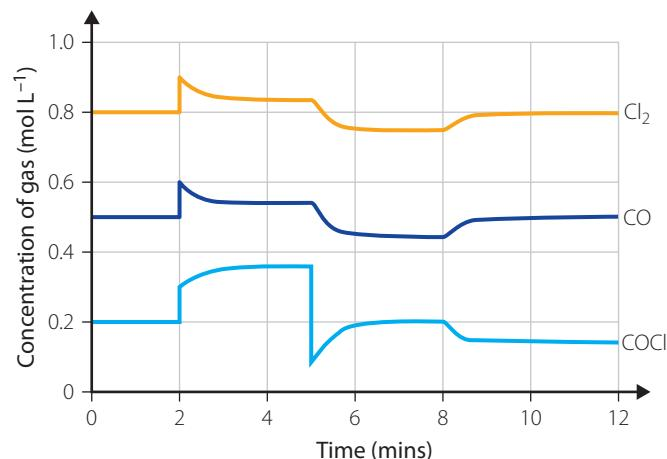

FIGURE 2.22 Closed system of a mixture of gases
- 10** A closed system consisting of a mixture of the gases CO, Cl₂ and COCl₂ was monitored over time (Figure 2.22).